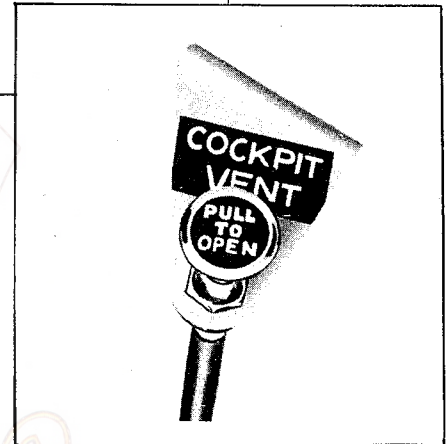

Figure 17—
*n.* COCKPIT HEATING, DEFROSTING, AND VENTILATING CONTROLS.—Cockpit heating and defrosting is managed by a control (figure 16) mounted to the right of the gun sight. Cooling is achieved by operating the cockpit vent control (figure 17) on the right wall of the cockpit.